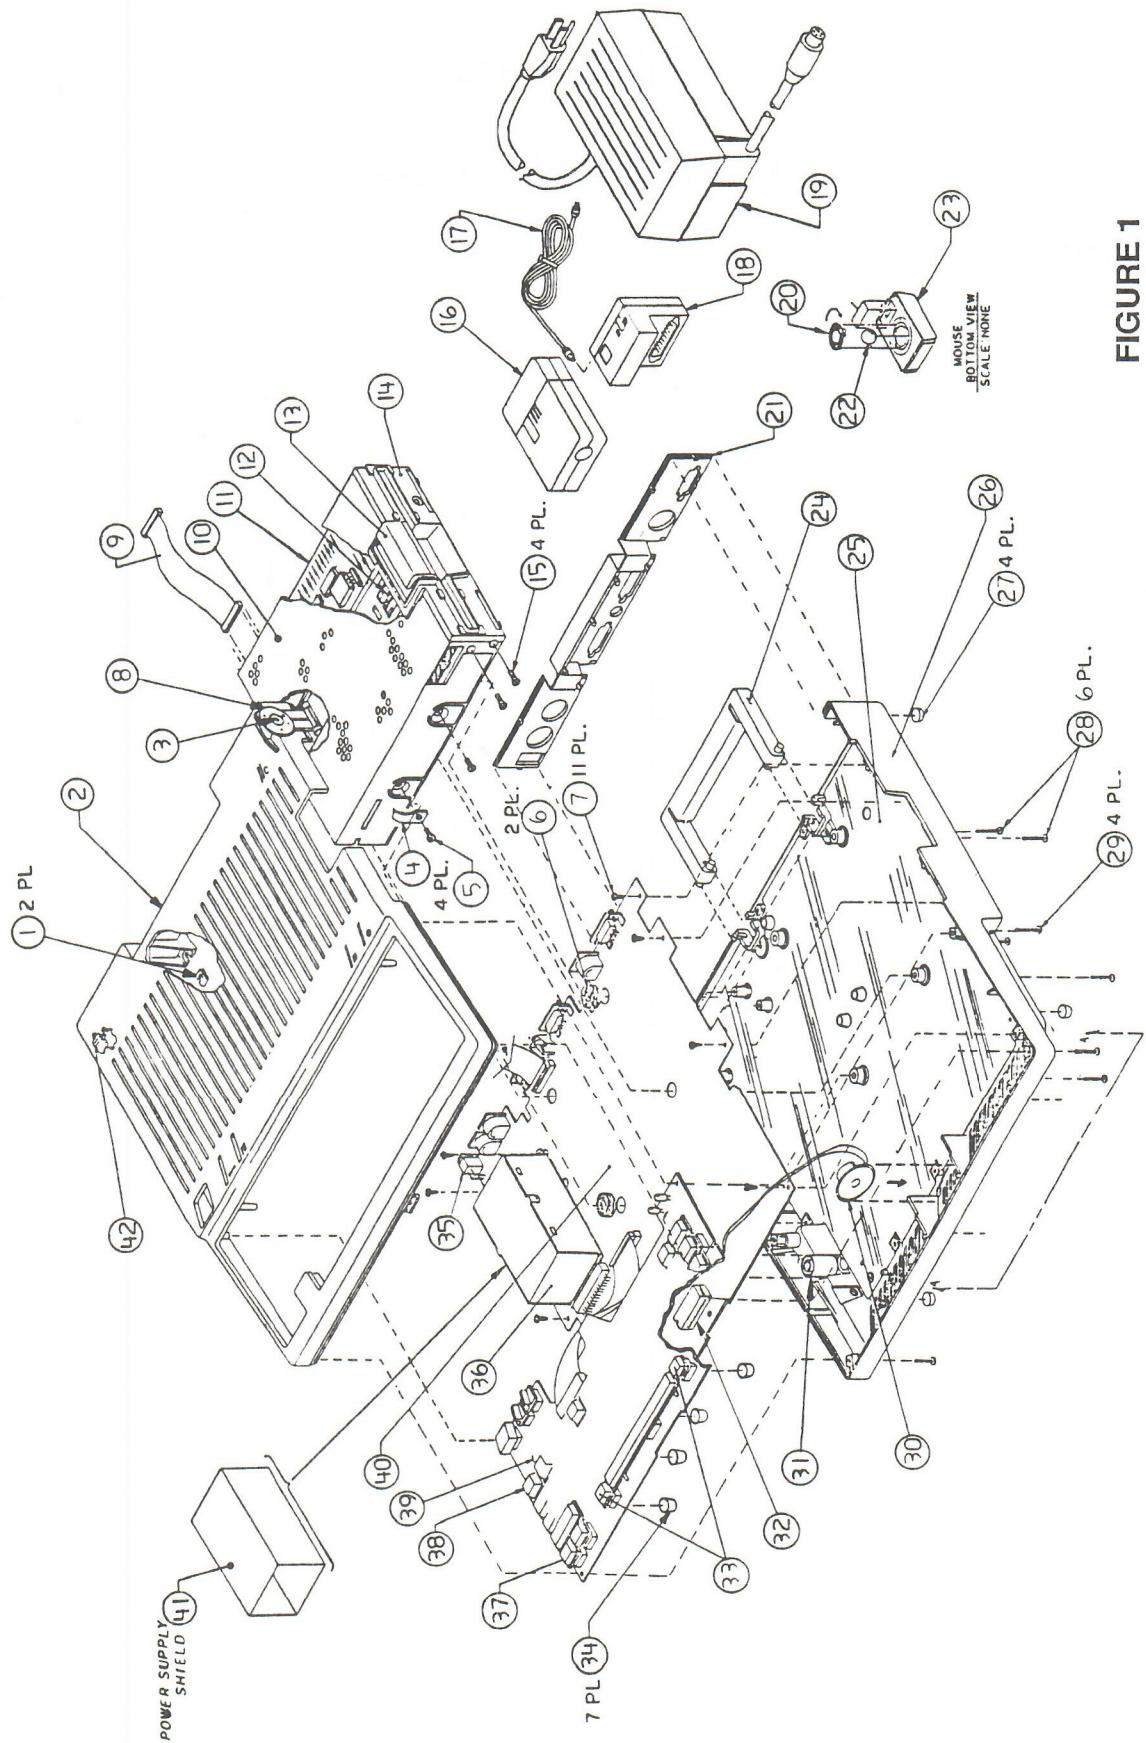

FIGURE 1
IPL.3	Finished Goods Assembly (Figure 1)
□ APPLE IIc – FINISHED GOODS ASSEMBLY (Figure 1)